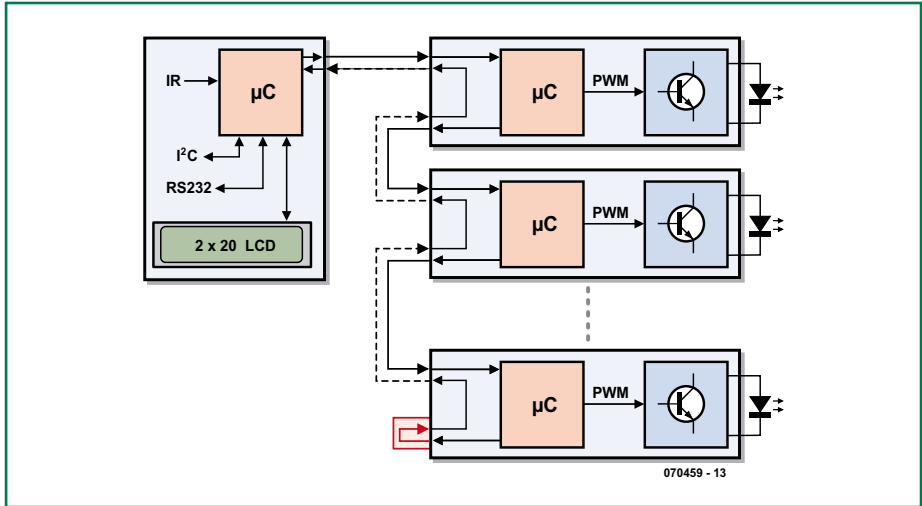

Figure 1. Block diagram of the complete system. In this example three power modules are connected to the main unit.
The circuit consists of two printed circuit boards, the main unit and the power module (Figure 1). The main unit can control a number of power
In the example configuration in Figure 1 the main unit is connected to a chain of three power modules. The main unit has an output shift register and an input shift register, while each power module has a shift register at its input and a pass-through output. A termination connector is therefore required at the end of the chain so that the signal can be shifted back to the main unit.
The transmission of one byte is illustrated at the bottom of Figure 1. First comes the start bit which lasts for half a bit time. This is followed by a low level for the same period. Then comes the command bit and then the data bits from bit 7 to bit zero: each of these bits occupies a full bit time. The command bit indicates whether the accompanying byte is a command (1) or is data (0). A command is transferred immediately to the output of the power module so that all the power modules in a chain receive a command essentially simultaneously. If the byte is data then the contents of the internal data shift register are output. Rather than waiting for the entire byte to be received the module starts outputting data immediately after the start bit is seen, which means that each power module introduces a delay of one bit time. A more detailed description is given in the text box 'All about bits'.